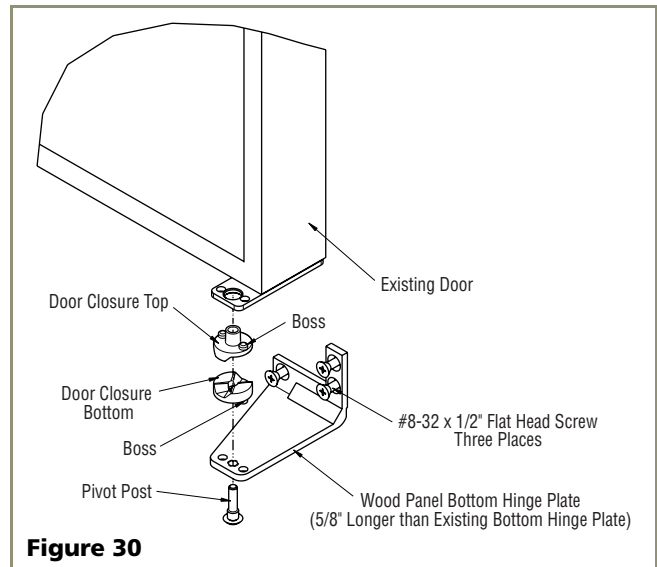

Figure 30
4. Replace the door closure assembly onto the bottom pivot post (see **Figure 30**). Be sure that bosses on closers align with holes in hinge and hinge plate.